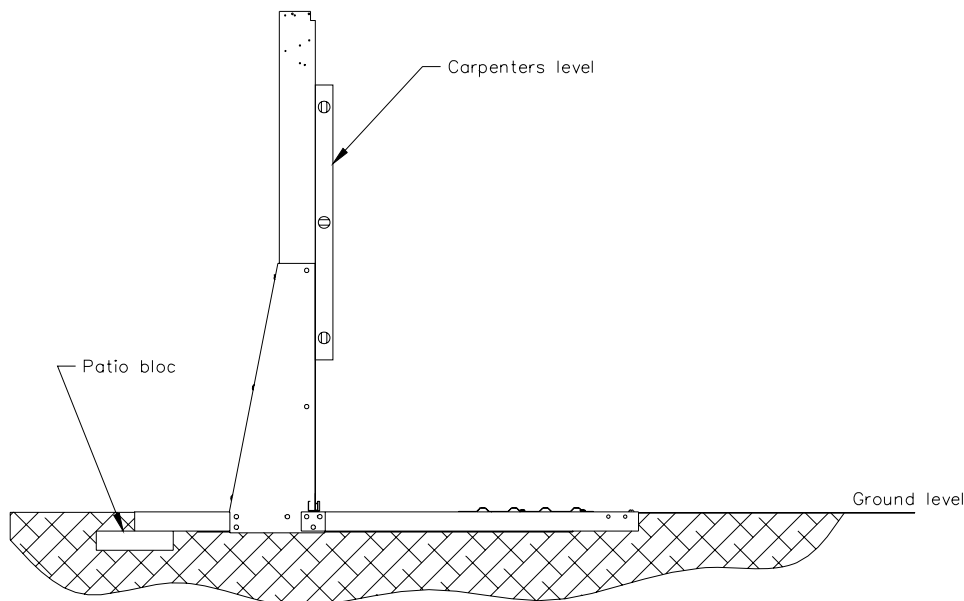
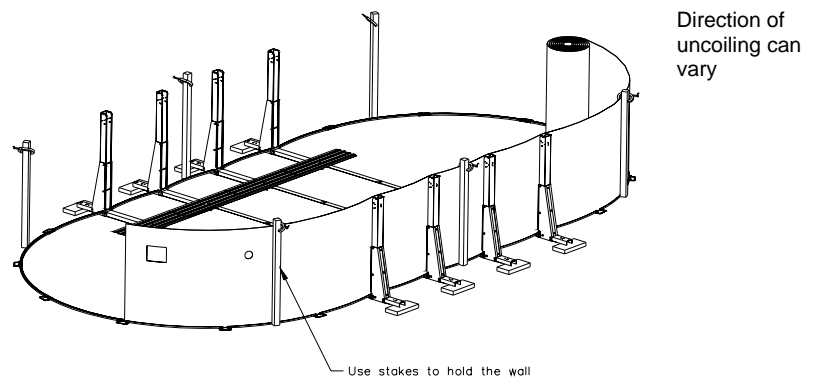

Figure 3.1
Figure 11.1
Once you have completed one entire side, do the same for every strap end channel on opposite side. After that is complete, it is a good idea to check that your oval uprights are all leveled from top to bottom by using a carpenters level. The pressure plates and straight side bottom channels ensure that the distance between section is always right. Be sure that the tops of the oval uprights are as well. (figure 3.1)
- With the help of at least 3 people, uncoil the wall so that the pattern faces the outside making sure the pre-punched slot for the skimmer is at the top. (figure 3.1) (figure 11.1)